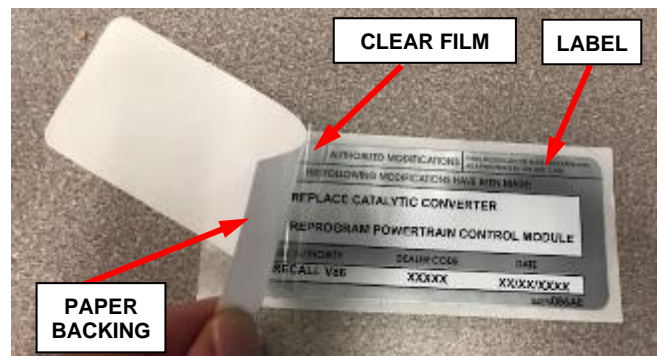

Figure 203 – Apply Clear Film
2. Remove the paper backing from the clear film on the front of the authorized modifications label then carefully apply the clear film over the front of the authorized modifications label (Figure 203).